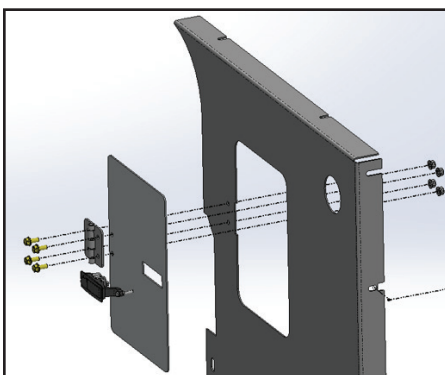

Figure 2 Install new doors (with new thumb latch) using existing hinges, bolts, and lock nuts.
3. Assemble the new doors on to the **new** side cover panel (Figure 2). These procedures are using new doors and new cover panels.